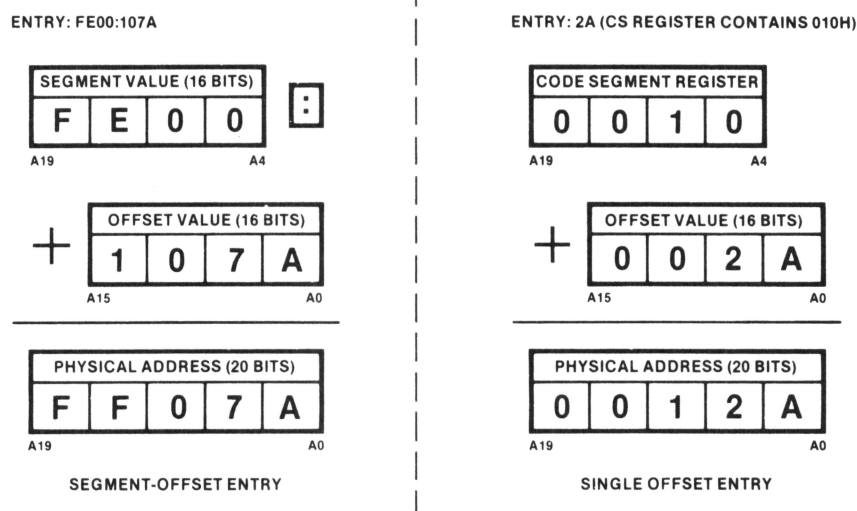

Figure 3-3. Physical Address Calculation
Note that in the following command descriptions, the monitor always calculates a 20-bit physical memory address from a 16-bit segment address value and a 16-bit offset address value. The segment address value is entered first, the ":" key is pressed (to separate the two entries), and then the offset address value is entered. The two values entered, which are displaced from one another by four bits, are added together as shown in Figure 3-3 (Segment-Offset Entry) to form the 20-bit physical memory address. If only one address value is entered (the colon must be omitted), it is interpreted by the monitor as an offset address value entry, and the current contents of the code segment (CS) register are used as the segment address value. The CS register contents and the offset address value entered are combined as shown in the Single Offset Entry example of Figure 3-3 to form the 20-bit physical memory address.